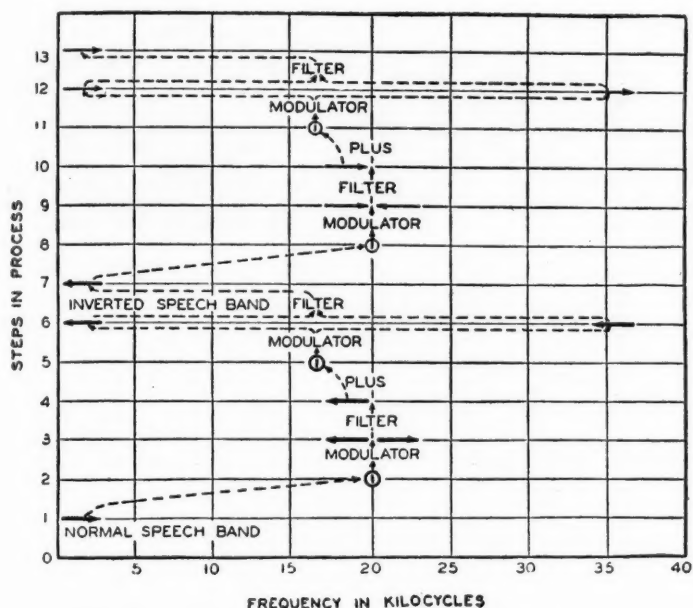

Fig. 2
The process for reinverting these audible frequencies back again into understandable speech is carried out in exactly the same way as in the inversion. (See steps No. 8-13 in Fig. 2.)
The various changes undergone by the sound-frequencies in the "inversion" process may be readily seen from Fig. 2, in which are shown all the steps from the time the original frequencies are superimposed upon the first modulating frequency until they are "inverted," and then "reinverted" back to the normal sounds. At the left of the diagram are the various processes numbered; and along the bottom are indicated the frequencies at which the processes occur. The arrows pointing to the left indicate that the frequencies at that particular stage are "inverted," and those pointing to the right show the opposite to be true. The normal speech in No. 1 (a band of frequencies 100 to 2900 cycles wide) is impressed on a frequency of 20 kilocycles at No. 2 (20,000 cycles indicated by (1), and produced by an oscillator) which it modu-